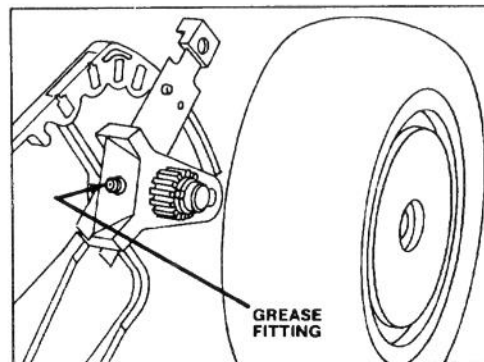

Figure 17
2. GREASE FRONT AXLE PIVOTS (Fig. 17) — Adjust height-of-cut to 3-inch setting and loosen wheel bolt to get additional clearance around grease fitting. Wipe grease fitting with clean rag. Install grease gun onto fitting and gently apply 2 or 3 pumps of #2 Multi-Purpose Lithium Base Grease. Excess pressure may damage seals.